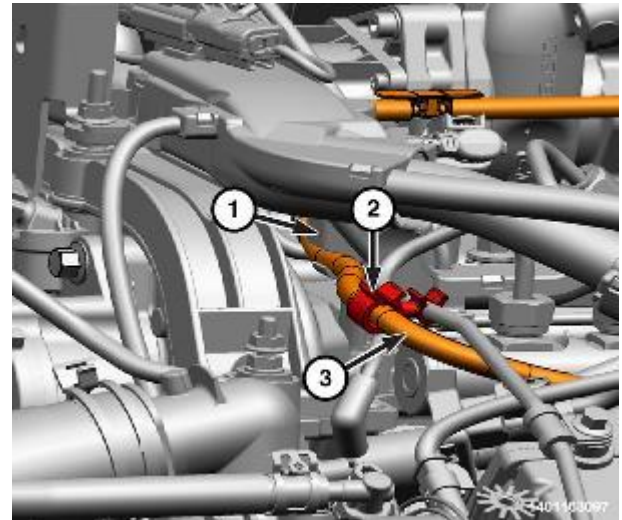

Figure 121 – Injector Return Line Retainers
- 57. Detach the fuel return line retainers (1 and 2) (Figure 121).
- 58. Remove the fuel injector return line assembly (3) (Figure 121).